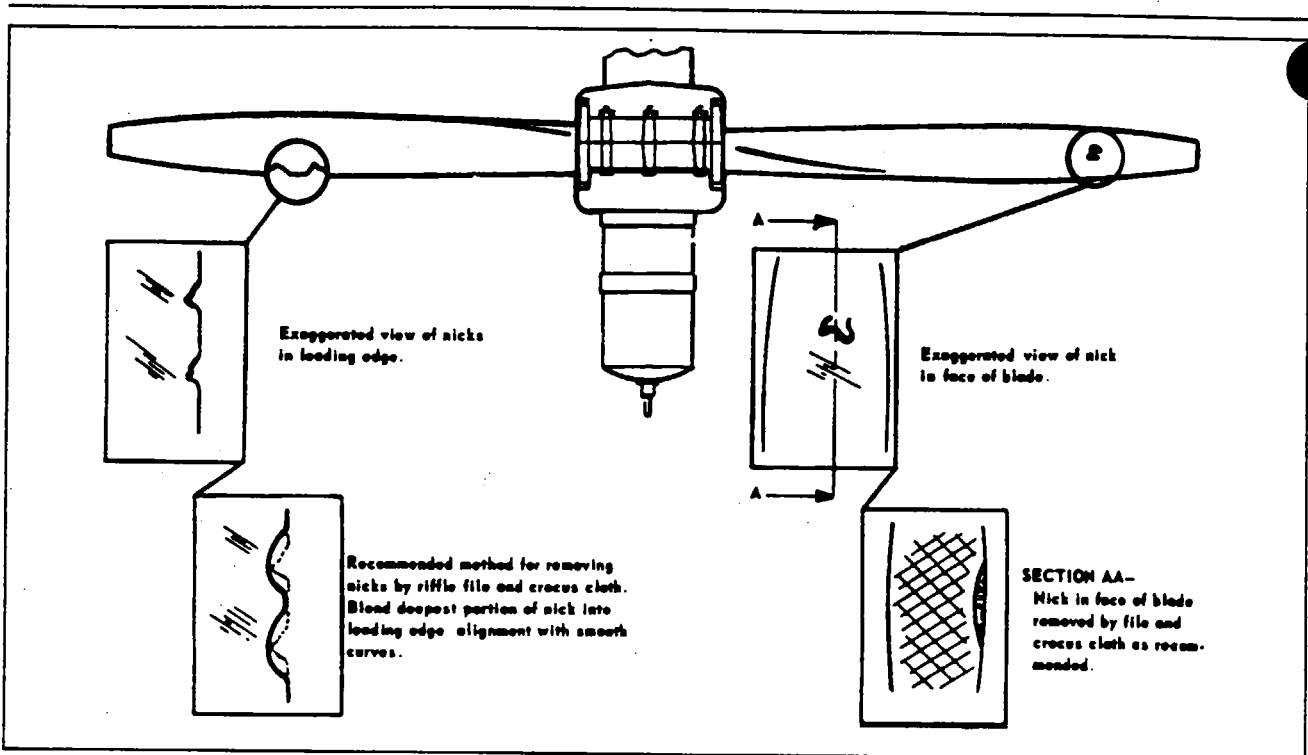

Figure 8-4. Typical Nicks and Removal Method
- g. Inspect blades for damage or cracks. Nicks in leading edges of blades should be filed out and all edges rounded, as cracks sometimes start from such places. Use fine emery cloth for finishing. Refer to Figure 8-4 for propeller blade care.